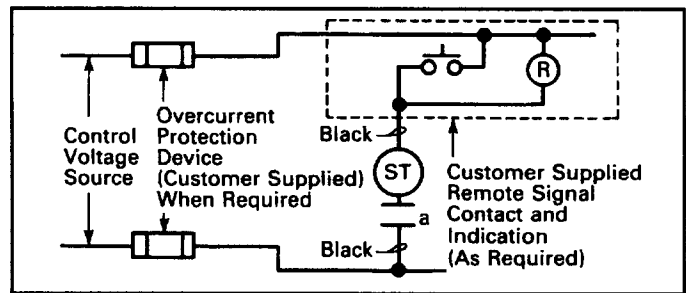

Fig. 2-7 Shunt Trip Connection Diagram
- 2-12. Connect shunt trip as required (see Fig. 2-7).